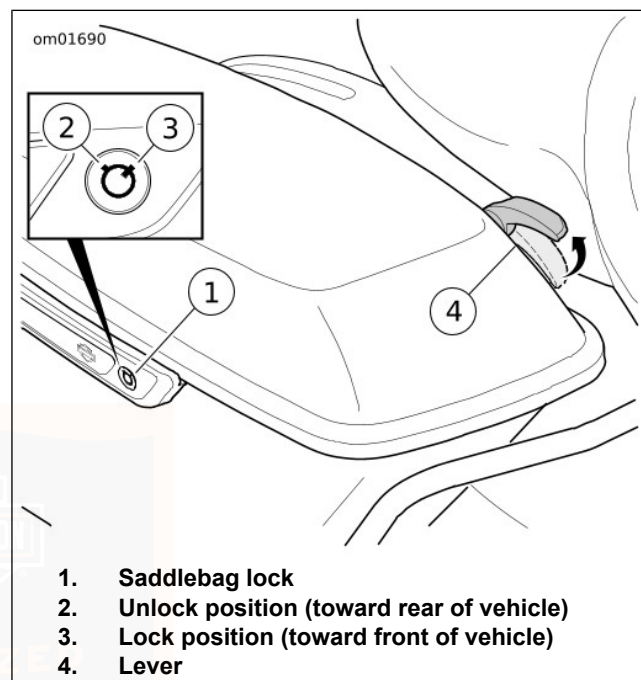

Figure 56. Saddlebag
1. See Figure 56. Unlock saddlebag lock with the key.
1. See Figure 56. Close the saddlebag lid.
1. See Figure 56. Open the saddlebag.